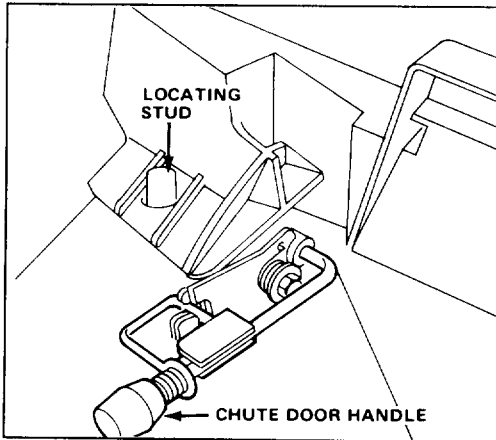

Figure 10
2. Assure chute door handle is fully forward and lockout lever is released into latch (Fig. 10).
3. **INSTALLING BAG**—Slide hole in bag frame onto retaining collar on housing (Fig. 10) and set rear of bag frame onto support rod on handle.
5. **EMPTYING BAG**—Stop engine and wait for blade to stop. Move chute door handle forward until it locks in the latch (Fig. 10). Grasp handle at front